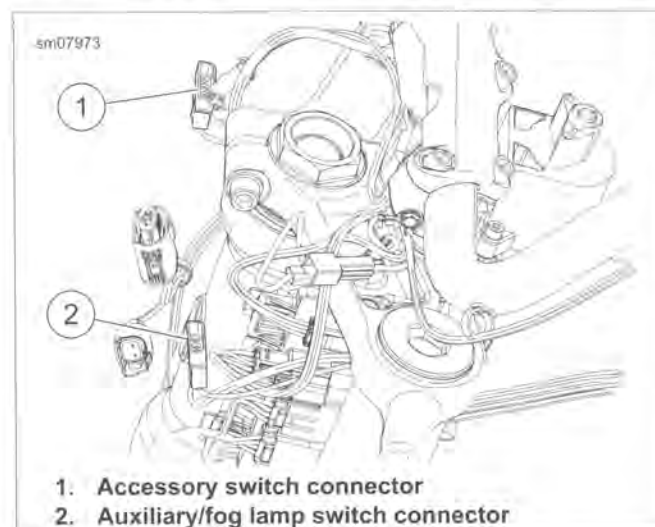

Figure 2-156. Nacelle Switch Connectors
7. Remove flange nut (7). Remove chrome strip (6).
8. Carefully pry off the fork lock plate (1). Remove two screws (2).
9. Loosen screw (3) until nut (5) and flat washer are near the end of screw.
10. Lift the handlebar clamp shroud (4). Pull rearward through the gap to remove shroud.
12. See Figure 2-156. Disconnect accessory switch (1) and auxiliary/fog lamp switch (2) connectors.